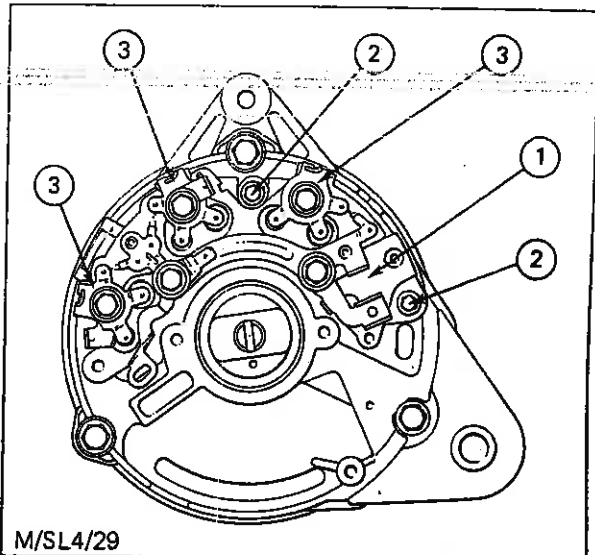

Fig. 51 - Replacing Rectifier Assembly
1. Place the rectifier assembly (1) in position and secure with two screws (2) - see Fig. 51. Solder each of the stator leads to its terminal (3) using a lightweight (25W) soldering iron and resin cored solder.